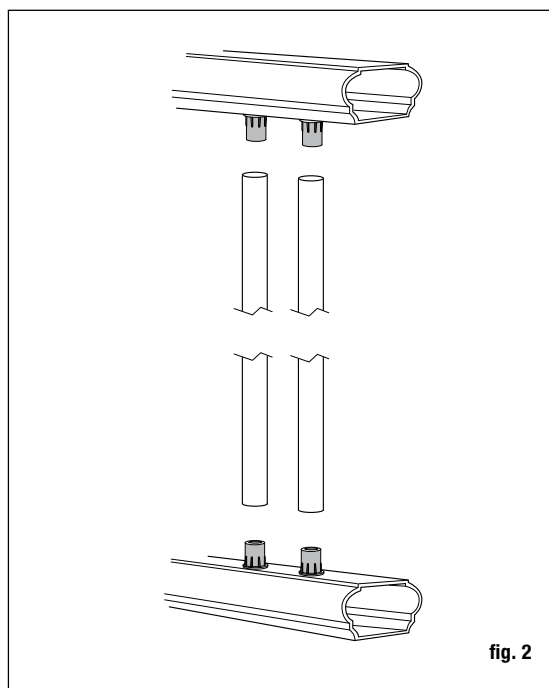

fig. 2
Step 12 Attach baluster to the lower rail by sliding onto connection (fig. 2). *Note: If baluster connectors are not pre-installed on rail, attach connectors to rail using the predrilled holes. Do not over-tighten screws.*